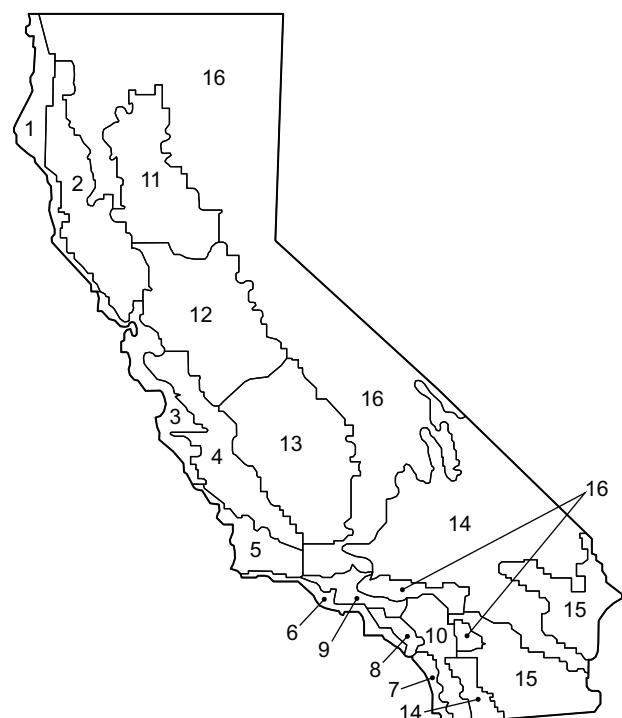

Fig. 61 — California Title 24 Zones
- b. See Fig. 61 for map of California Title 24 zones.